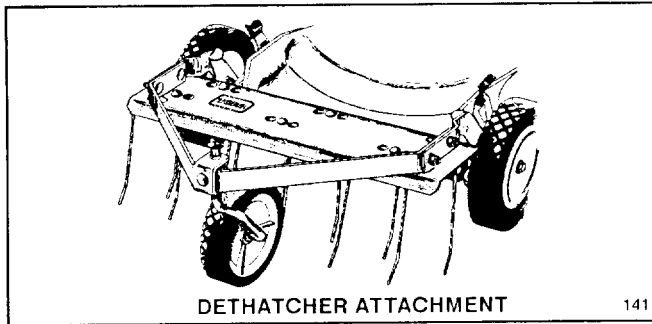

Figure 25
1. **Dethatcher Kit, Model No. 59131** – As spring tines on the Toro Dethatcher (Fig. 25) scratch and vibrate through the grass, thatch is loosened and cut by the mower.